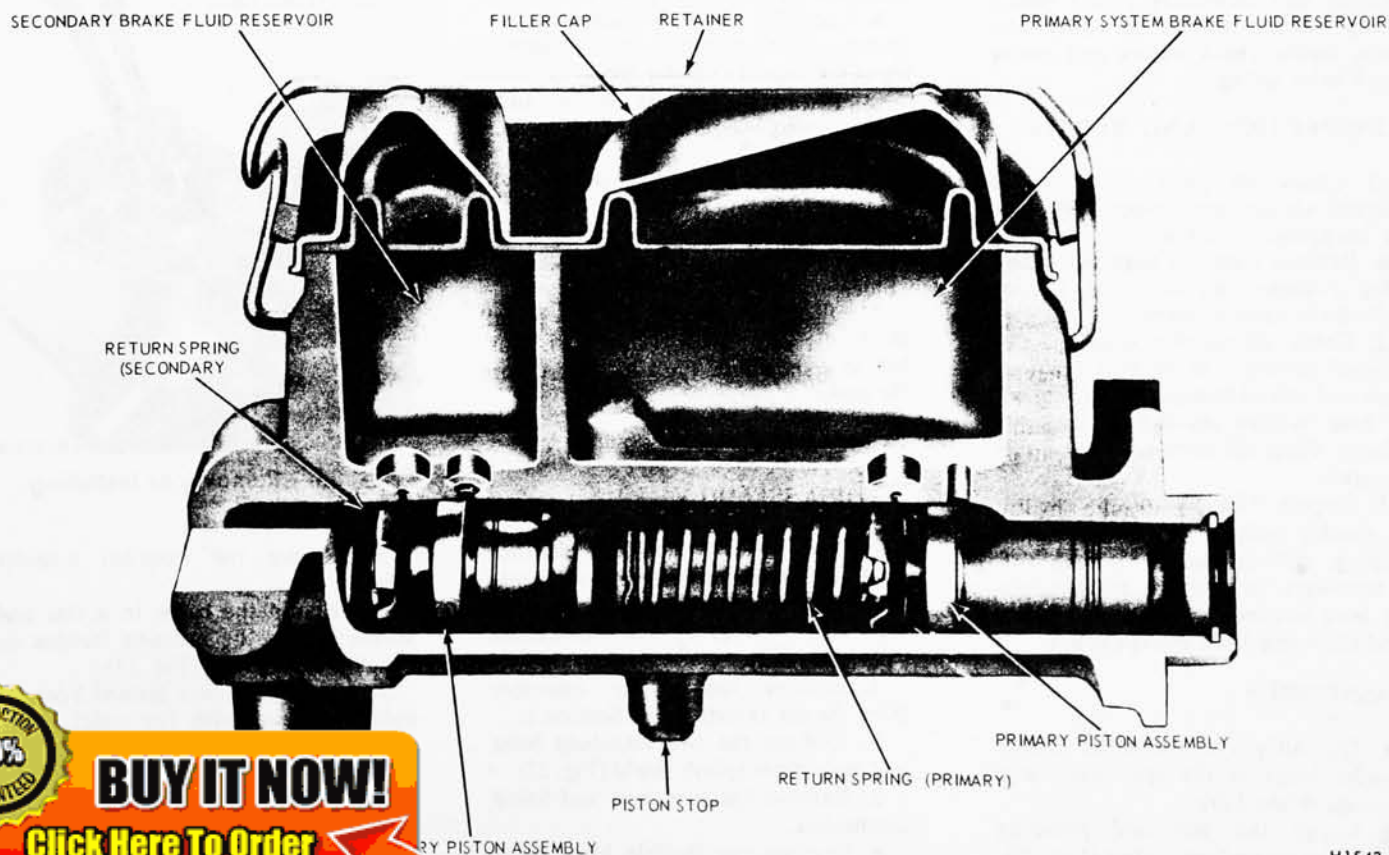

FIG. 20—Dual Master Cylinder—Disassembled
2. Remove the secondary piston stop bolt from the bottom of the cylinder (Fig. 20).
7. Install the bleed screw. Install the filler cap gasket. Position the gasket as shown in Fig. 20. **Make sure the gasket is properly seated.**